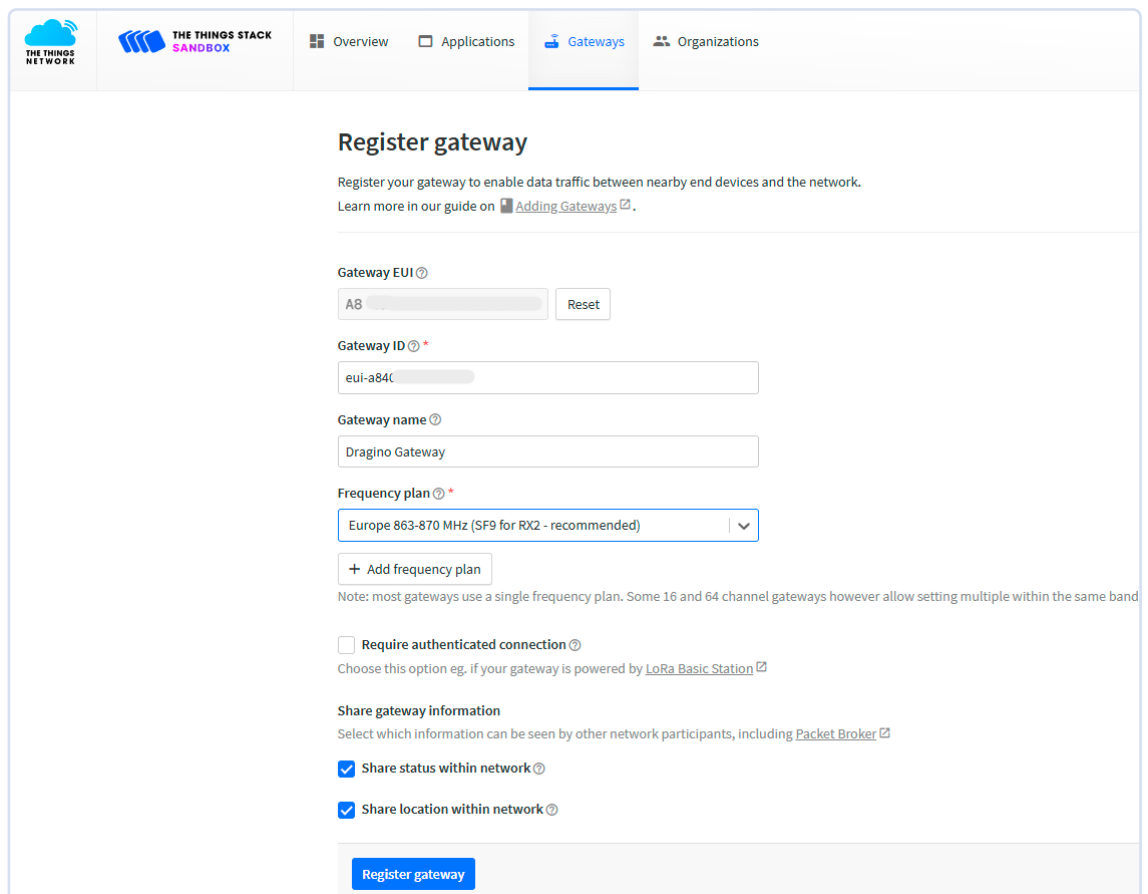

Figure 5: Adding your gateway to The Things Network.
- > **Registering on TTN:** Next, go to The Things Network console and create an account if you don't already have one. Once logged in, register your gateway by providing necessary details such as the gateway's EUI (a unique identifier for your gateway) and selecting your region, as shown in **Figure 5**.